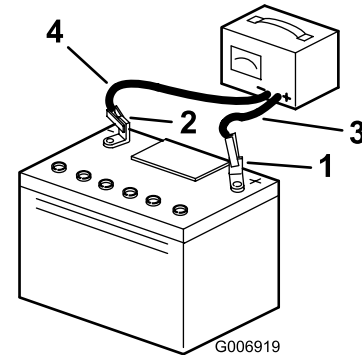

Figure 26
5. Disconnect the charger leads from the battery posts (Figure 26).